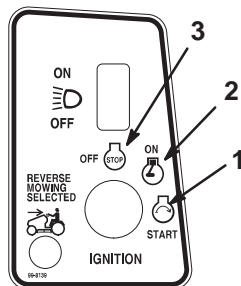

Figure 10
- Turn the ignition key clockwise and hold it in the Start position (Fig. 10). When the engine starts, release the key.
- Turn the ignition key to Off and remove the ignition key (Fig. 10).